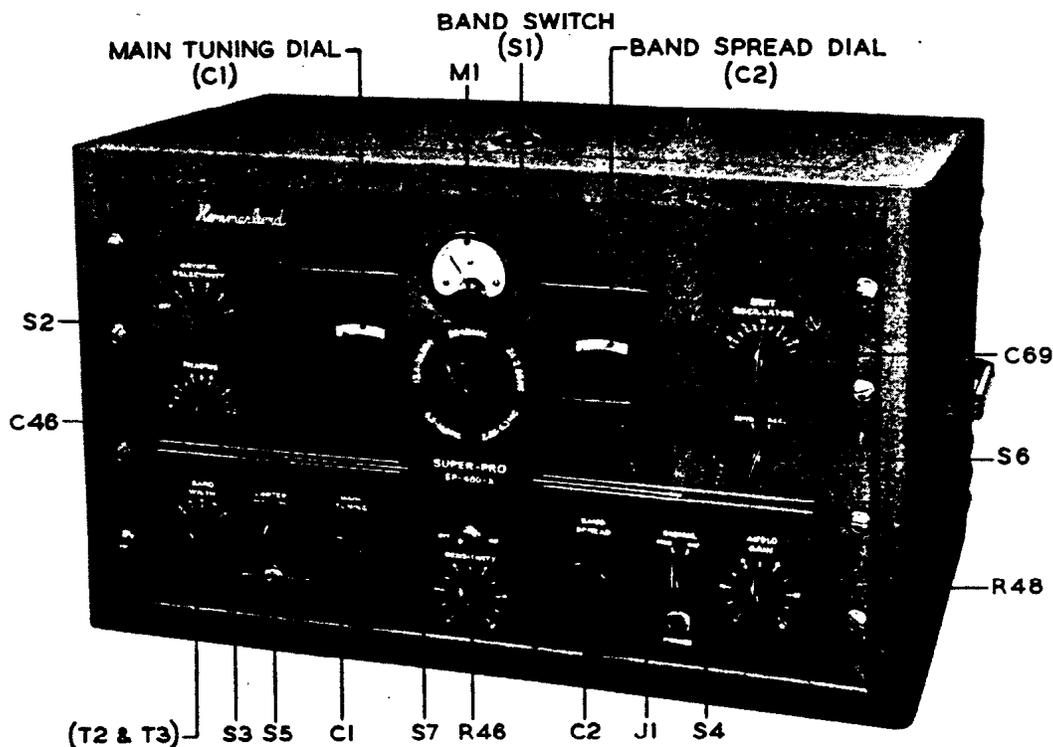
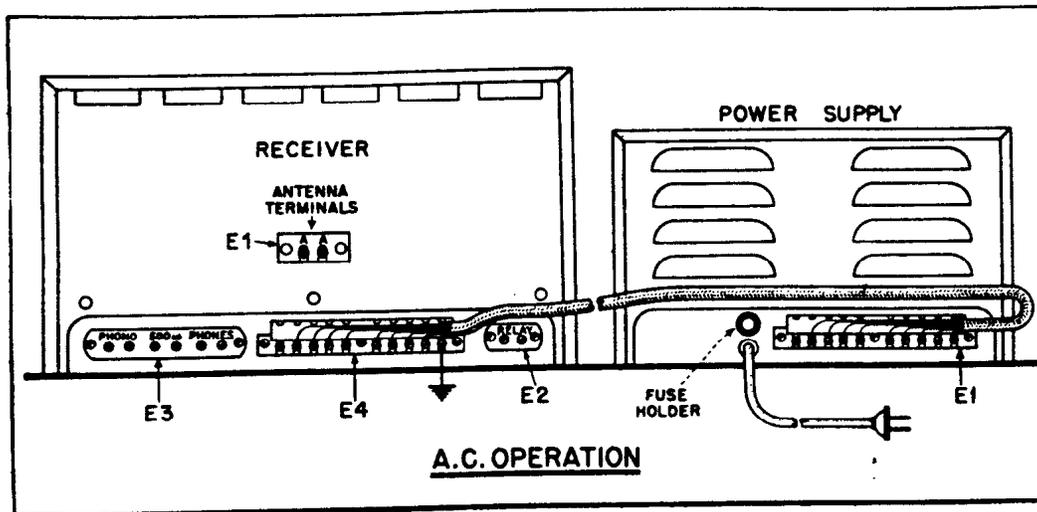

FIG. 2—Lay-out of controls referred to in text.
FIG. 3—Connectors for power cable—A.C. operation.
panel (FIG. 2). Select the desired band by turning the BAND SWITCH knob right or left to the band indicated.
a. *Rating*—The total power output is approximately 8 watts. The total harmonic distortion of the output stage is less than 10% at this output and is, of course, less at lower levels. The Receiver has two output circuits with marked terminals along the rear of the chassis (FIG. 3).
(1) Remove the sheet-metal covers from terminal strip (E4, FIG. 3) on rear of Receiver and from terminal strip (E1, FIG. 3) on Power Supply. See that all ten screws on each strip are unscrewed at least three turns. Then attach one end of the connector cable to each terminal strip *exactly* as shown in FIG. 3 and tighten all screws securely. Make certain that each slotted spade lug on the cable strips makes contact with its respective screw terminal *only*, since a lug jammed between *two* screws could cause considerable trouble. Immediately
Connect a single-wire lead-in to the end of the antenna nearest the Receiver and try to have the lead-in wire leave the antenna approximately at right angles. Connect the lead-in to one of the "A" terminals (on terminal strip E1, FIG. 3) at the rear of the Receiver. Connect the other "A" terminal to a good ground, preferably not to the Receiver chassis. Run this ground lead to a water pipe or to a metal rod driven into the ground deep enough to reach moist earth. Keep the length of the ground lead as short as possible. Make the best possible electrical connections between the antenna and its lead-in and between the ground lead and "ground."
d. *Chassis Ground:* It is not usually necessary to ground the Receiver chassis, but this can be done by connecting the ground lead to the left-hand PHONO or to the left-hand PHONES terminal (located on terminal strip E3, FIG. 3). These two terminals are grounded to the inside of the chassis.
e. *Earphones:* Plug a headset into the PHONES jack (J1, FIG. 2), or connect it to screw terminals marked PHONES on rear of chassis. No matching transformer is necessary (see PAR. 20b).
f. *Loudspeaker:* The permanent magnet dynamic loudspeaker supplied with the Receiver has a transformer mounted on its housing. This transformer matches the voice coil of the loudspeaker to the 500-ohm output terminals (on terminal strip E3, FIG. 3) located at the rear of the chassis (marked 500 ohms). For loudspeaker operation,
h. Line Switch: Turn the OFF-ON switch (S7, FIG. 2) on the Receiver front panel to OFF and plug the power cord of the Power Supply into the a-c powerline.
a. *Radiophone Reception:* Set the front panel controls (FIG. 2) as follows:
(1) Throw OFF-ON power switch in center of panel to ON. This puts Receiver in operation.
(2) Adjust band switch (S1, FIG. 2) to a band which is likely to be very active. This will facilitate the process of getting familiar with the various adjustments. If interference is not serious, BAND WIDTH control can be adjusted to a wider band width (higher number), depending upon the degree of fidelity desired. In general, adjust this control to band width giving best tone with least interference.
(3) Do all tuning, with or without the meter with BAND WIDTH control set at 3. Other settings give wider bands, making exact tuning difficult. Make band width adjustments *after* signal is tuned properly.
(4) LIMITER-OFF-ON control turns noise limiter on and off. The noise limiter will be most valuable on the higher frequencies, where interference from automobile ignition system is most bothersome.
(1) On strong signals, do not turn SENSITIVITY control all the way on, because it will cause overloading. If the AUDIO GAIN control is set at about 7, it is possible to regulate volume by using only the sensitivity control.
(2) To turn on the beat oscillator, set SIGNAL-MOD-CW switch at CW. The BEAT OSCILLATOR control varies the pitch of the beat between oscillator and incoming signal. Use beat oscillator for code reception and for locating weak modulated signals.
(3) Fading signals can be improved by returning AVC-MANUAL switch to AVC.
d. *Receiver Silencing:* Receiver can be silenced by flipping the SEND-REC switch (S6, FIG. 2) to SEND. This operation opens the "B" supply to the R-F and 1st detector tubes (V1, V2 and V3). The Receiver then remains ready for instant service during transmission periods. Note also that instead of using the SEND-REC switch, a relay may be connected to the RELAY terminals (E2, FIG. 3) at rear of Receiver and silencing controlled by relay action, actuated, for example, by the associated transmitter. When using a relay for silencing, flip SEND-REC switch to SEND (open) and *leave* it there. While the
e. Phono Operation: Leads from a phonograph pickup may be connected to the PHONO terminals (on terminal strip E3, FIG. 3) at the rear of the Receiver. (Note that the left-hand terminal of this pair is grounded to chassis.) Use the SEND-REC switch (S6) as a "phono-radio" switch by flipping it to the SEND position, thus eliminating radio interference and making it unnecessary to hunt for a "dead spot" on the tuning dial.